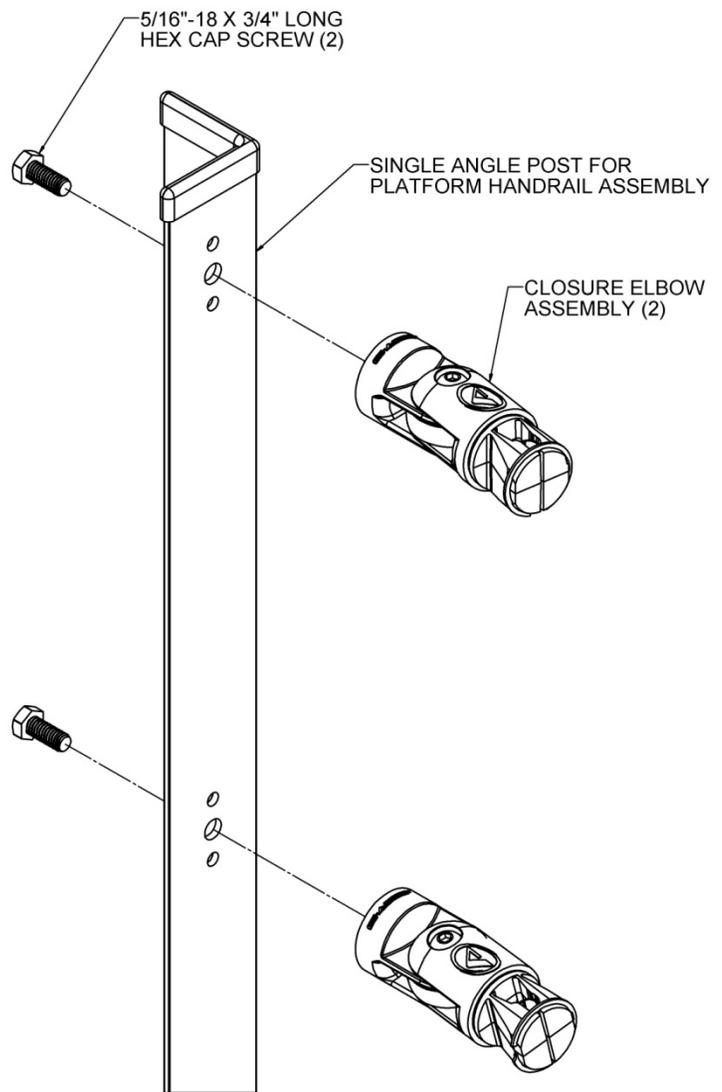

FIG. 6.8
- 6.2.3. Using a handrail closure elbow, pass a 5/16”-18 x 3/4” hex cap screw through each of the two larger holes in upper portion of the angle post into the threaded end of closure elbow, then tighten lightly (FIG. 6.8).